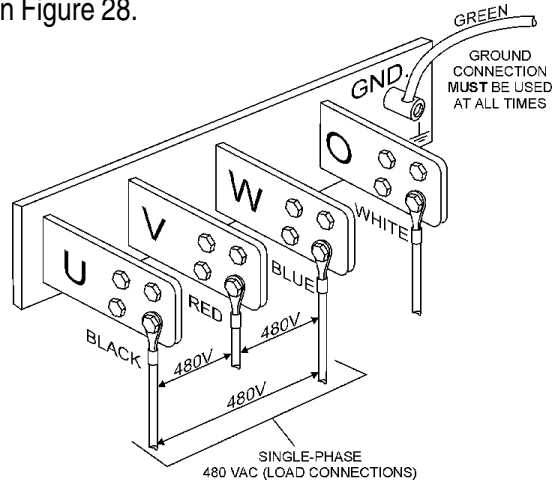

Figure 28. UVWO Terminal Lugs 1Ø-480V Connections
2. Connect the load wires to the UVWO terminals as shown in Figure 28.